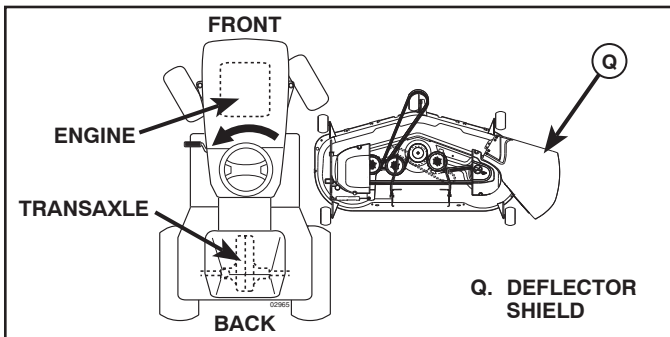

Fig. 29
3. TURN STEERING WHEEL LEFT AND POSITION MOWER (See Fig. 29)
- Turn steering wheel to the left as far as it will go and position mower on right side of tractor with deflector shield (Q) to the right.